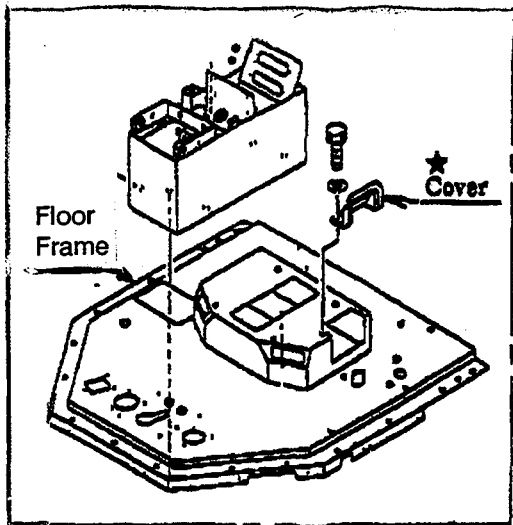
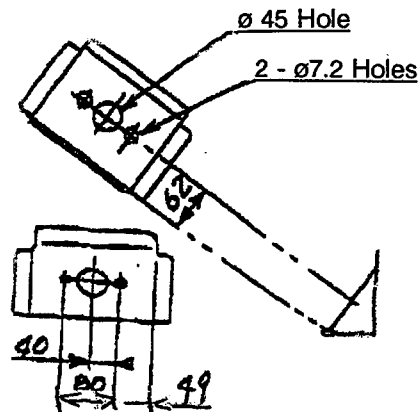

Fig. 3
Fig. 5
(1) Reworking the floor frame
- ① Remove the operator's seat and the L.H. cover① (marked ★ in Figure 3).
(2) Reworking the cover
Drill holes in the cover ① marked ★ in Figure 3, referring to Figure 5.